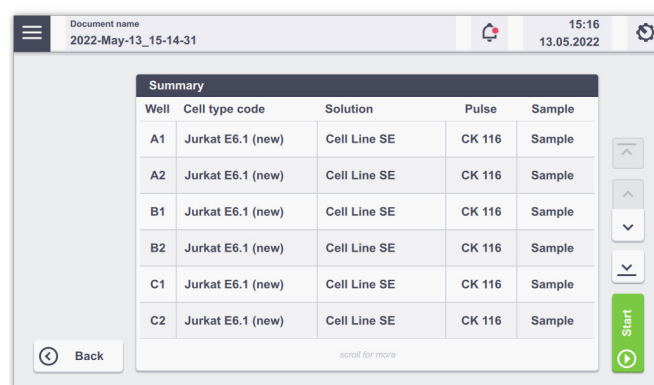

Figure 2.16: Summary screen after setup.
6. The summary screen appears (Figure 2.16) listing the settings for each well-defined and the drawer will open.